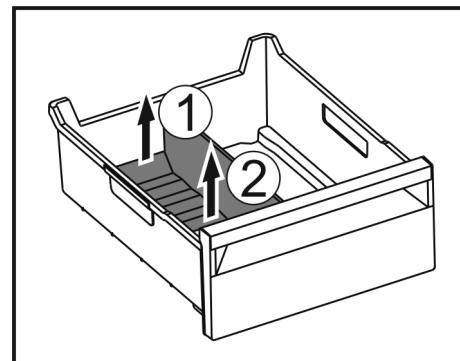

Fig. 117
- ▶ Lift the rear part of the ice compartment divider. *Fig. 117 (1)*
- ▶ Remove the ice compartment divider upwards. *Fig. 117 (2)*